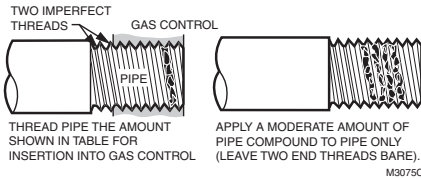

Fig. 5. Use moderate amount of pipe compound.
3. Thread pipe the amount shown in Table 5 for insertion into the gas control. Do not thread pipe too far. Valve distortion or malfunction can result if the pipe is inserted too deeply into the gas control. See Fig. 5.